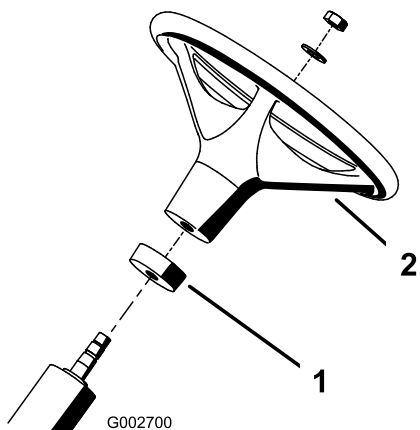

Figure 2
2. Slide the foam collar, small end first, onto the steering shaft (Figure 2).
3. Slide the steering wheel onto the steering shaft (Figure 2).
4. Secure the steering wheel to the steering shaft with a washer and locknut (Figure 2). Torque the locknut to 20–26 ft-lbs (27–35 N·m).